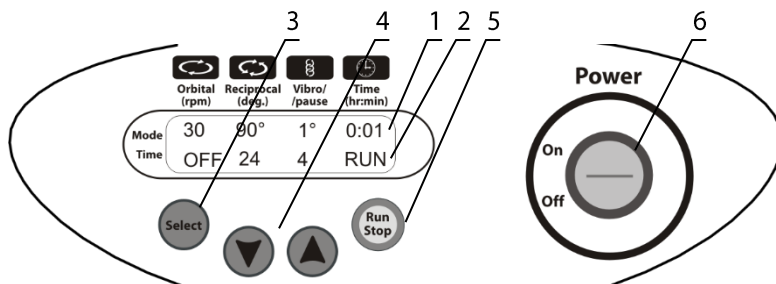

Fig. 3. Control panel of PSU-20i
- 5.2.1. Connect the external power supply to the mains and switch on the **Power** switch (fig. 3/6).
- 5.2.4. Press the **Run Stop** key (fig. 3/5) to start the program. The platform motion starts, the indication RUN (fig. 3/2) and the changing time values are shown on the display.
- 5.2.6. If the operation time is not set and the timer indicator (fig. 3/1) shows OFF, pressing the **Run Stop** key causes the unit to operate continuously until the **Run Stop** key is pressed again.
- 6.3. Press the **Select** key (fig. 3/3) to choose the parameter to change. Each pressing of the **Select** key consecutively activates the parameters. The active parameter is flashing. Use the **▼** and **▲** keys (fig. 3/4) to set the necessary value. Pressing the key for more than 2 s increases the speed of value change.
- 6.7. The timer (fig. 3/1) is used to control the overall operation time. The timer can be set for the period from 1 min to 96 hours (timer increment 1 min)